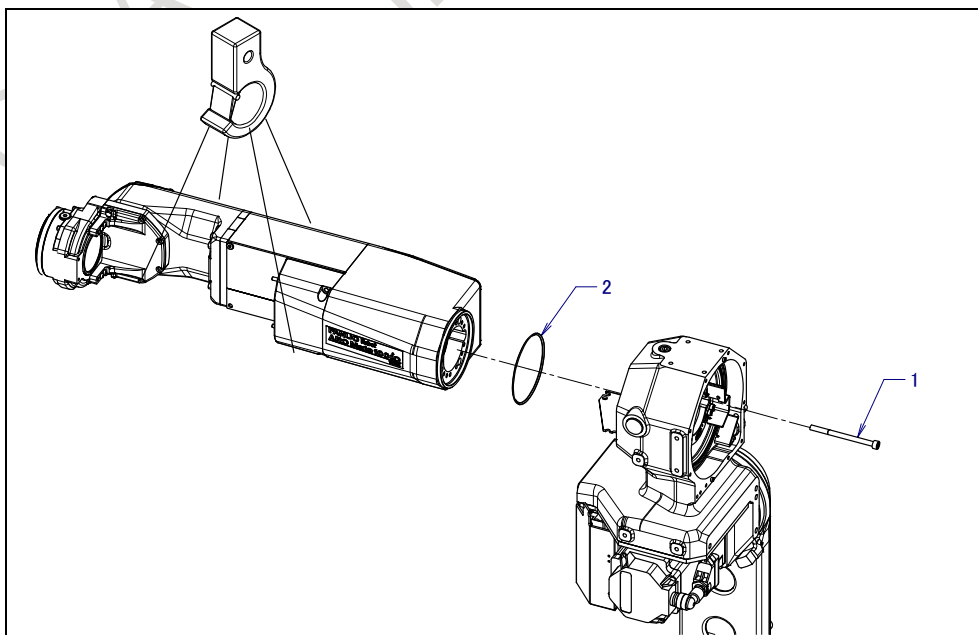

Fig. 6.12 (a) Replacing the J4-axis gearbox unit (ARC Mate 100iC/10S, M-10iA/10S) (1/3)
- 5 Wrap and hang Sling in two places of the J3 arm referring to Fig. 6.12 (a).
- 9 Remove bolt (1), the J3 arm and the O-ring (2).